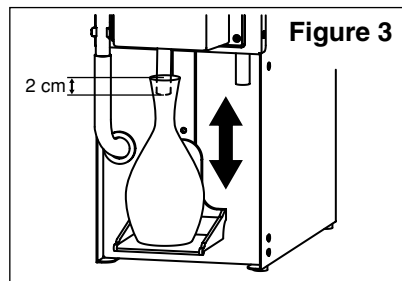

Figure 3
- The server bottle tray is at the right height if the tip of the nozzle drops about 2 cm into the server bottle (Figure 3).